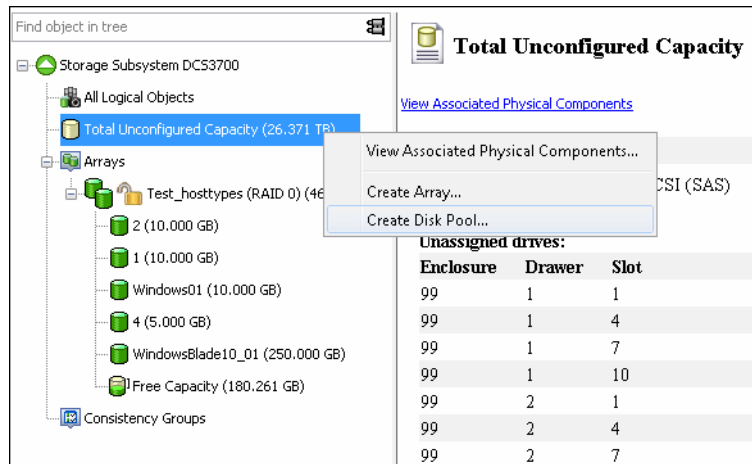

Figure 8-20 Create Disk Pool option
1. Right-click **Total Unconfigured Capacity** and select **Create Disk Pool** (see Figure 8-20). This action starts the wizard to create an array, which leads you to the disk pool creation process.